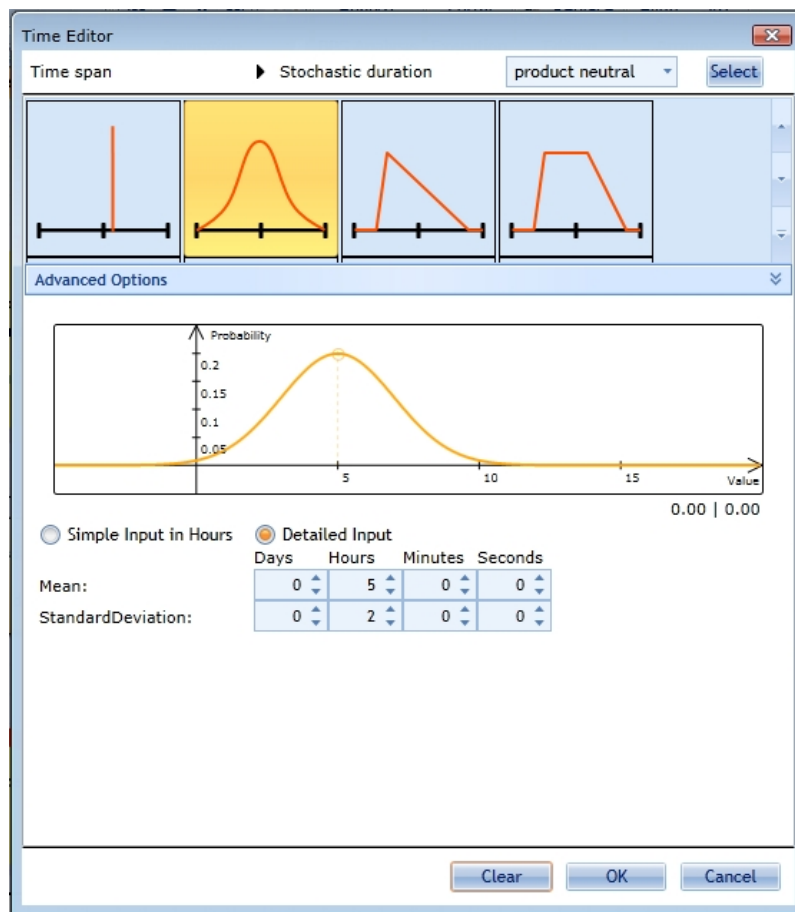

Figure 2: The Time Editor (Stochastic Distribution view, Multiple Input Boxes)
2. Detailed Input, Figure 2: The detailed input view allows you to enter an exact time span by specifying the number of days, hours, minutes, and seconds. Due to this restriction you can only enter integers.